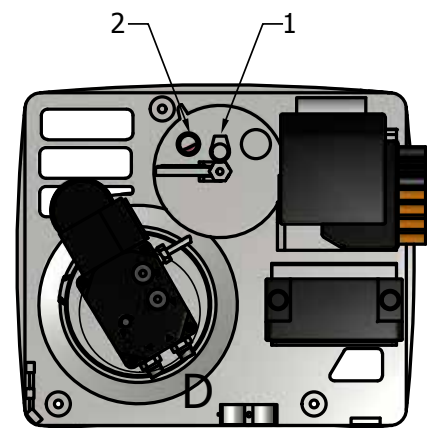
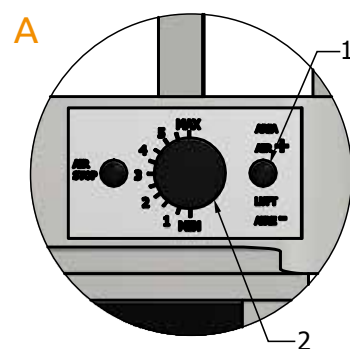

Fig. 4
Fig. 6
a) Make sure that the burner's heating power setting corresponds to boiler size. This adjustment is made using Fig. 4 element 1 by turning a screwdriver to the left or right.
b) Initial setting of the air damper is made by turning the adjustment screw Fig. 6, element 1, for approx. 1 level in line with Fig. 6, element 2.
Carefully watching the boiler's chimney outlet (there should be no black or white smoke), adjust fuel amount to a satisfying dose (typical setting in the range from extreme left position + 1 turn to the right to 2.5 turns to the right). Make sure that the burner-boiler assembly does not shake in the resonance (characteristic loud rumbling noise). In case fuel pump adjustment range is insufficient, adjust the air damper Fig. 6, element 1 (typical setting range: 0.5 - 2.0). This setting and precision adjustment should be conducted several times until a light flame is achieved in the direct view window as in Fig. 4, element 2. The target adjustment should be performed on a heated machine during a third or fourth boiler heating (normal operation mode), whereas precision adjustment refers to the machine's cold start procedure.